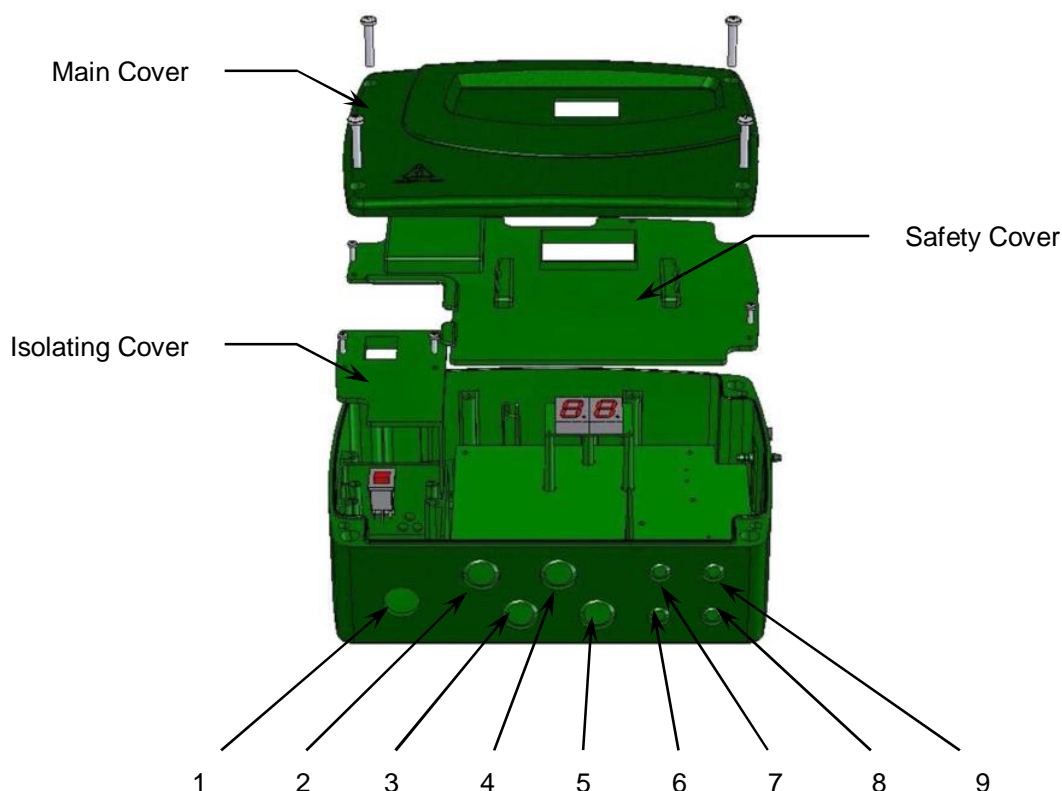

Figure 1 : Control Panel Gland Holes
- 4.7.4 Using a suitable M20 gland, feed the mains power supply through Gland Hole 1 (Figure 1). Wire the mains supply to the terminal blocks following the guide on the terminal blocks.
- 4.7.6 Using a suitable M20 gland, feed the blower power supply cable through Gland Hole 4 (Figure 1) and terminate to connections 5 & 6 (TB3) following the guide on Table 1.
- 4.8.1 Using a suitable M20 gland, feed the pump power cable through Gland Hole 2 (Figure 1) and terminate to connections 1 & 2 (TB1) following the guide on Table 1.
- 4.10.3 Remove the link in the terminal blocks between connections 11 & 12 (TB6) before inserting cables. Using a suitable M12 gland, feed the high level alarm float cable through Gland Hole 7 (Figure 1) and terminate to connections 11 & 12 (TB6) following the guide on Table 1.
- 4.11.5 Using a suitable M12 gland, feed the cable from the beacon through Gland Hole 9 (Figure 1) and terminate to connections 16, 17 & 18 (TB8) following the guide on Table 1.